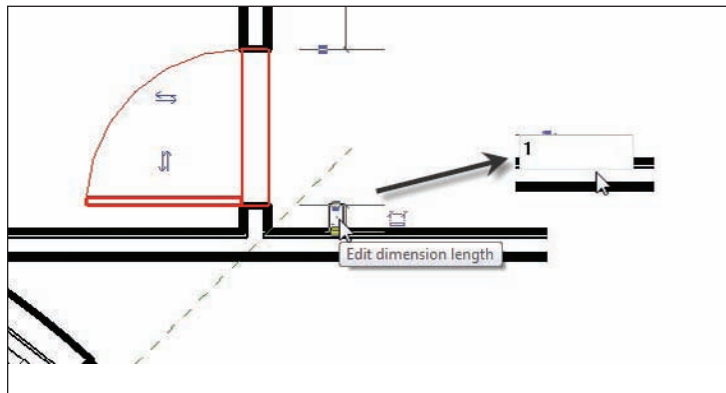

FIGURE 5.37 When you type a different value, the temporary dimension will move the object.
1. Zoom in on the left side of the west wing, as shown in Figure 5.37.
2. Select the door, as shown in Figure 5.37. Notice there is a blue dimension on both sides of the door. These are temporary dimensions.
3. Pick the blue text in the temporary dimension, as shown in Figure 5.37. (The text might be obscured by the wall, but if you hover over it, it will activate and then you can select it.)